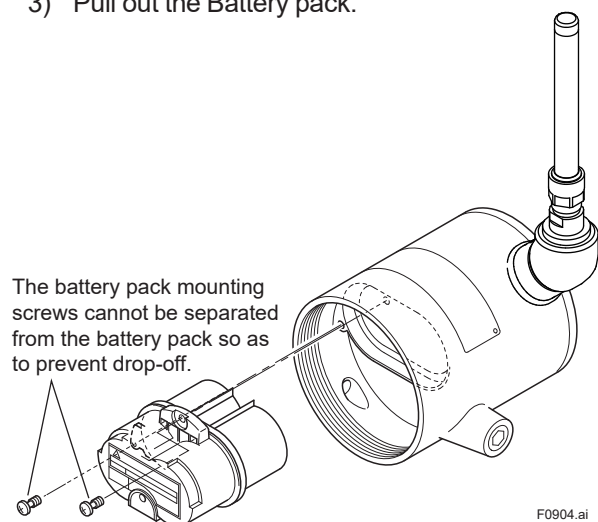

Figure 9.4 Removing the Battery Pack
- 2) Loosen the two battery pack mounting screws (see Figure 9.4).
- 3) Loosen the two power supply module mounting screws (see Figure 9.4).